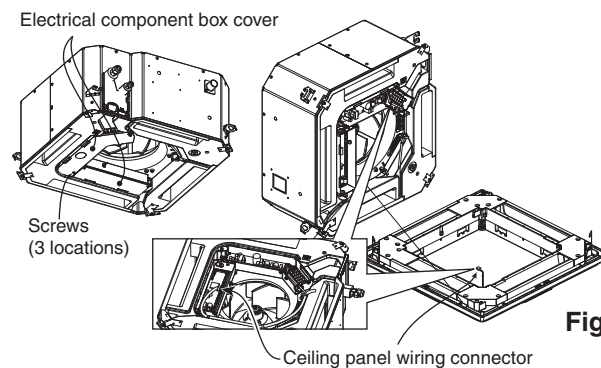

Fig. 3-48
- (1) Open the cover of the electrical component box for control PCB.
- (2) Connect the 7P wiring connector (red) from the ceiling panel to the connector on the control PCB in the unit electrical component box. (Fig. 3-48)